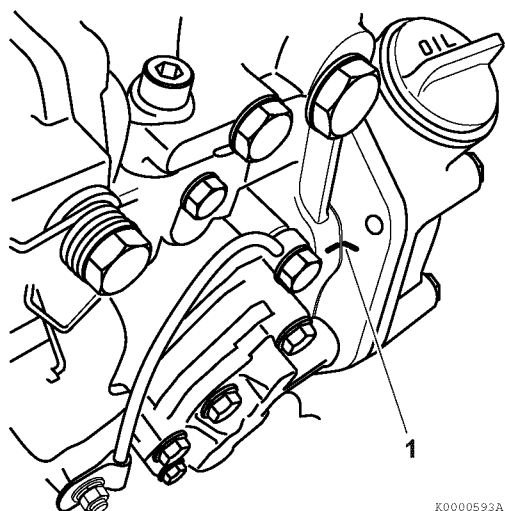

Figure 7-22
- Align the reference marks (Figure 7-22, (1)) previously made on both the fuel injection pump mounting flange and gear case or front plate.